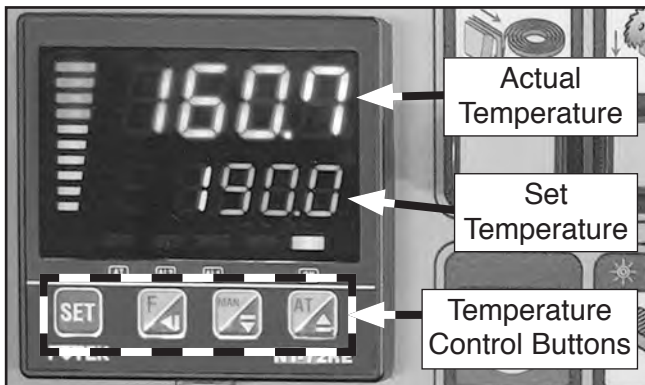

Figure 44. Temperature control panel.
2. Press 'Set' button on control panel (see **Figure 44**). Lower (green) digit will begin to flash.